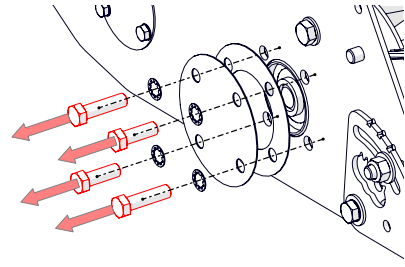
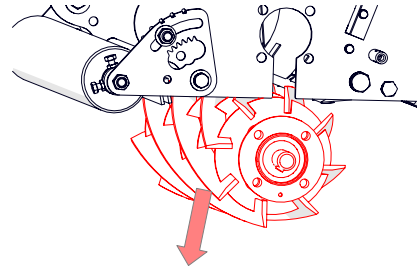

Fig. 18I - Remove cylinder securing bolts from RH side.
Fig. 18J - Remove cylinder from the machine.
10. Remove the 4 x M12 hex bolts (Fig. 18I) securing the cylinder on the right-hand side. Carefully lower the cylinder down and away from the machine (Fig. 18J)